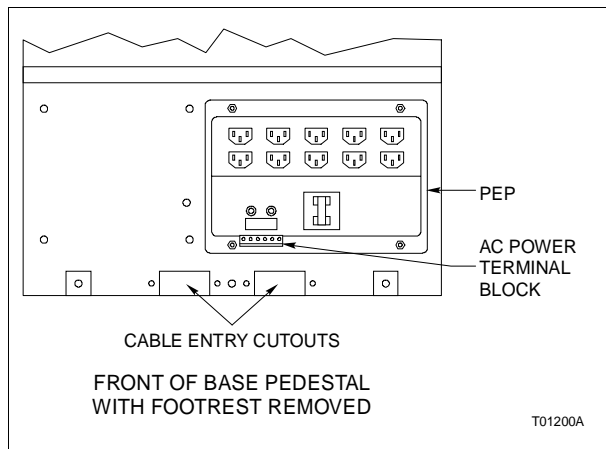

Figure PR24-1. Cable Entry Cutout and PEP Locations
- 2. Bring the power wiring from the service up through one of the cable entry cutouts in the bottom of the base pedestal. Figure PR24-1 shows the location of the cable entry cutouts.